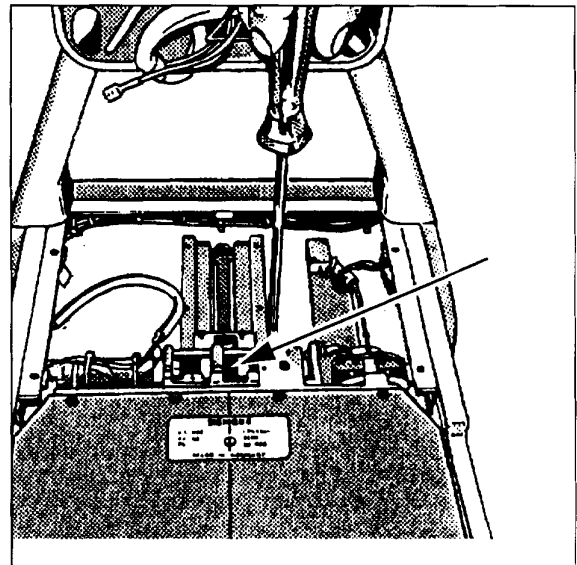

Fig. 4
- Lightly grease the grid spindle (arrow /Fig.4). Reattach the patient tabletop.